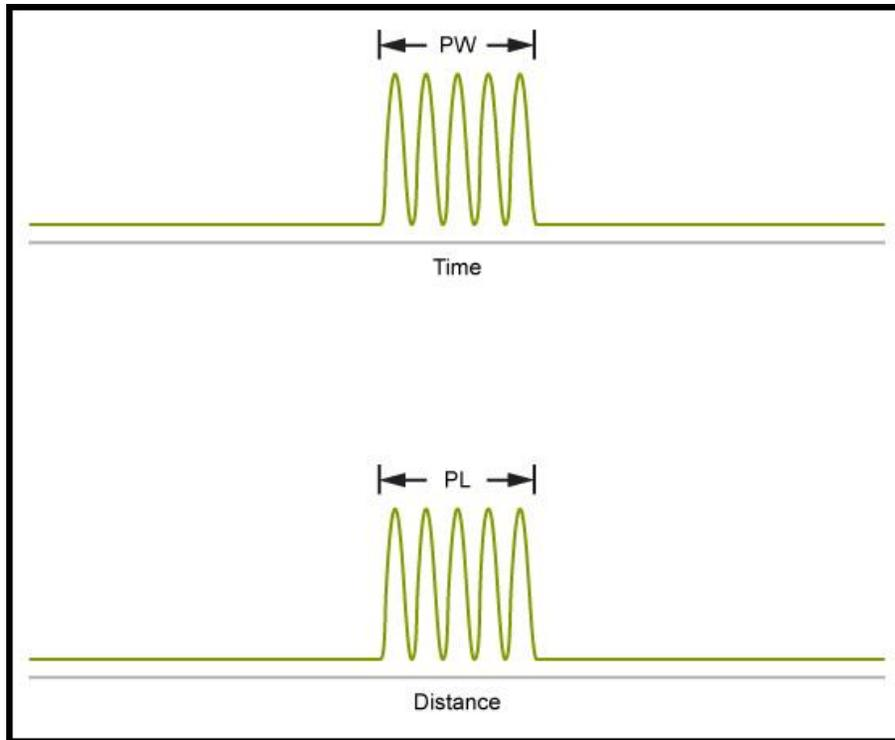

Figure 1-6 Pulse Width and Pulse Length
Pulse width (PW) is the time required to transmit one pulse of radar energy (duration of the pulse). This represents the time the radar is transmitting vice receiving, or “listening” for radar returns (Figure 1-6). Varying the PW allows optimization of the radar’s range resolution and enhances minimum range performance.
Pulse length (PL) is the distance from leading edge to trailing edge of the radar pulse as it travels in space (Figure 1-6).